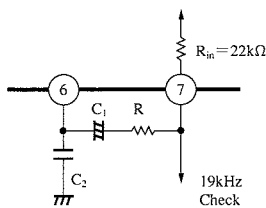
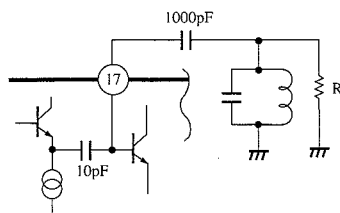

Fig.1
Fig.2
2. AM AF output can be adjusted by the resistor between Pin⑥ and Pin⑦. Frequency characteristics of AM AF output can be changed (Figure 1) by  $C_1$ , R and input resistor  $R_{IN}$  (22kΩ) of Pin⑦.
3. Pin⑦ becomes 19kHz check pin at FM mode. At this time, resistor R between the Pin⑥—⑦ becomes 19kHz load and cannot be 0Ω.
4. Driving current of the Pin⑧ stereo indicator is about 5 mA (max.).
5. VCO frequency is adjusted by the half-fixed VR of Pin⑪ (Monitor is Pin⑦). Adjusting range is more than 10kΩ.
6. FM AFC is used by rectifying IF detection output of Pin⑯.
7. FM detection uses Quad. detection. When R is changed by the circuit construction in the figure 2, FM output level changes. However, caution should be taken as stereo lamp light-on level, light off level and THD changes.